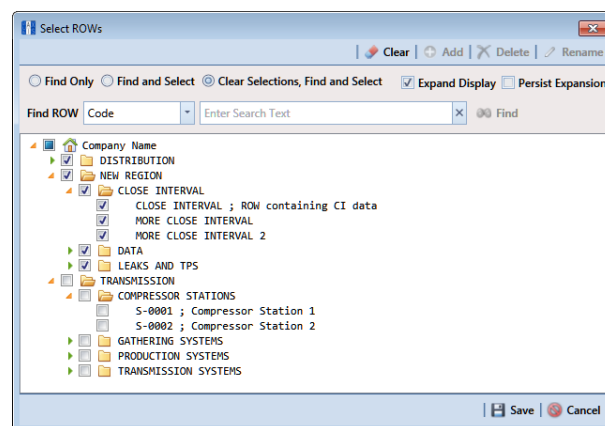

Figure 7-122. Select ROWs
- 1 Select one or more pipeline segments in the *Select ROWs* window (Figure 7-122). Select pipeline segments with facilities you want to work with, then click  **Save** to close the window.